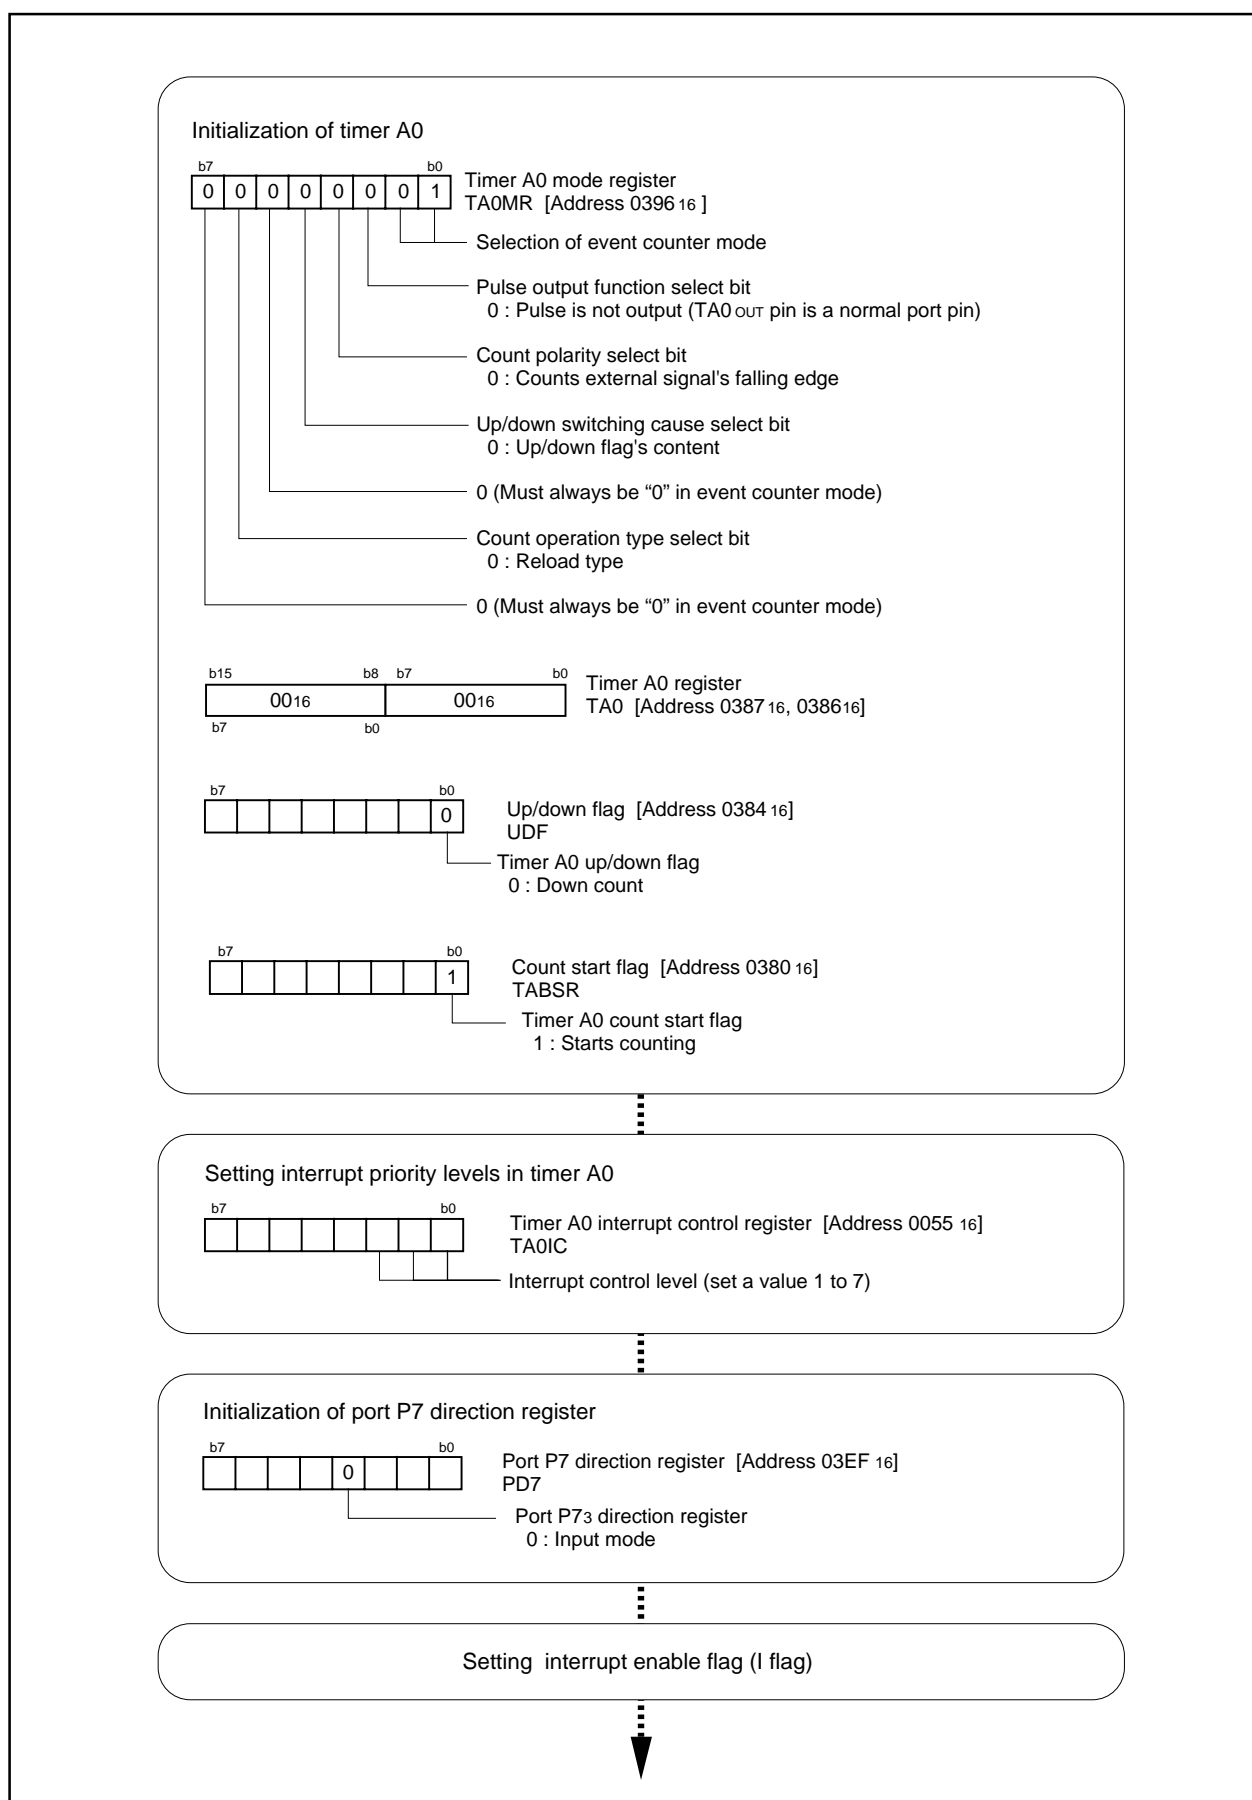

Figure 3.5.1. Set-up procedure of solution for a shortage of external interrupt pins
**Overview** The following are solution for external interrupt pins shortage. Figure 3.5.1 shows the set-up procedure.